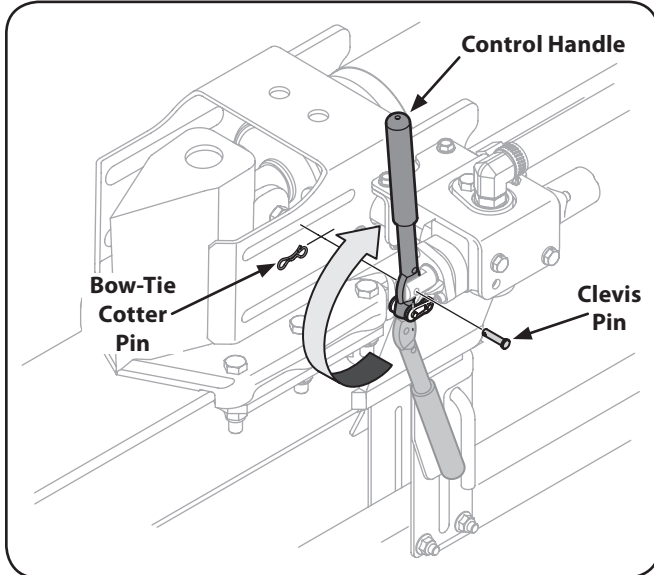

Figure 3-8
- Remove the clevis pin and bow-tie cotter pin from the control handle. See Fig. 3-8.
- Rotate the control handle into the operating position and secure with the clevis pin and bow-tie cotter pin removed in step 1. See Fig. 3-8.